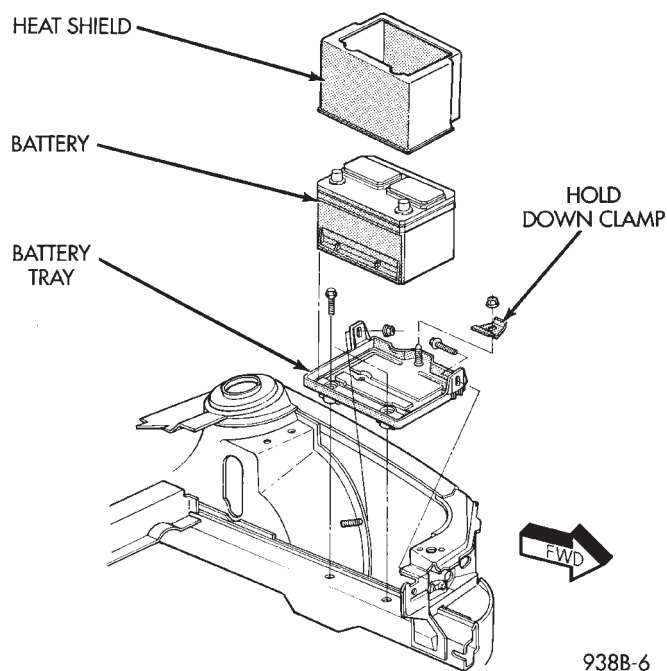
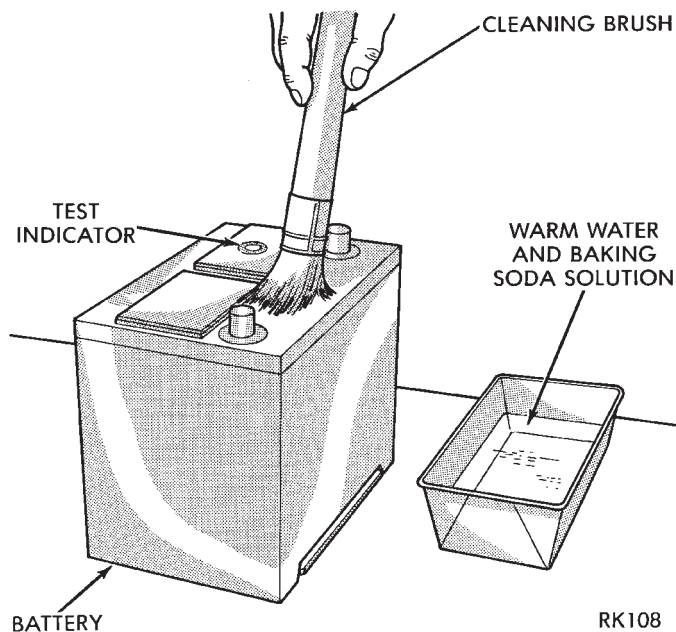
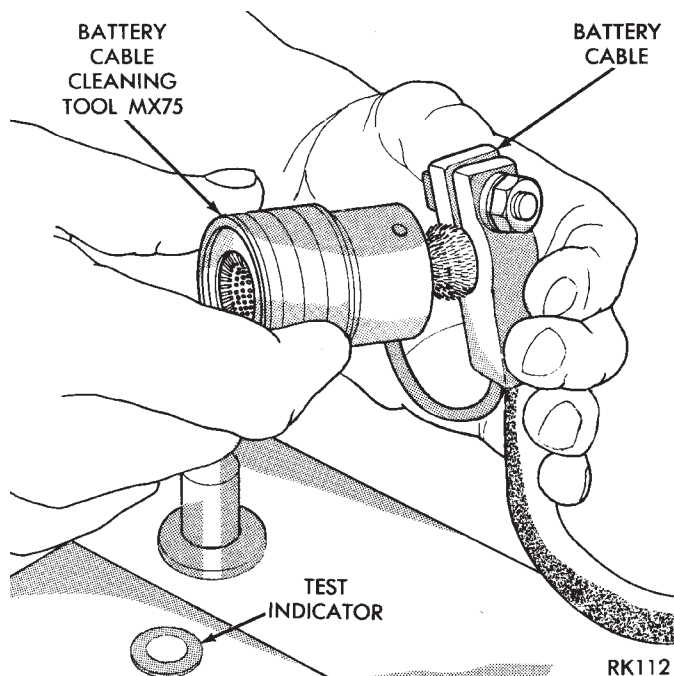

Fig. 3 Battery Heat Shield/Hold-Down/Tray
Fig. 4 Cleaning Battery
Fig. 6 Cleaning Battery Cable Terminal
- (4) Remove battery hold down clamp (Fig. 3) and remove battery from vehicle.
- (5) Clean top of battery with a solution of warm water and baking soda. Apply solution with a bristle brush and allow to soak until acid deposits loosen (Fig. 4). Rinse with clear water and blot dry with paper toweling. Dispose of toweling in a safe manner. Refer to the WARNINGS on top of battery.
- (6) Inspect battery case and cover for cracks or leakage. If leakage is present battery must be replaced.
- (7) Inspect battery tray (Fig. 3) for damage caused by acid from battery. If acid damage is present, it will be necessary to clean area with same solution described in Step 4.
(9) Clean inside surfaces of battery terminal clamps with a suitable battery terminal cleaning tool (Fig. 6). Replace damaged or frayed cables and broken terminal clamps.
(10) Inspect battery for proper or damaged hold down ledge.
(11) Install battery in vehicle making sure that battery is properly positioned on battery tray (Fig. 3).